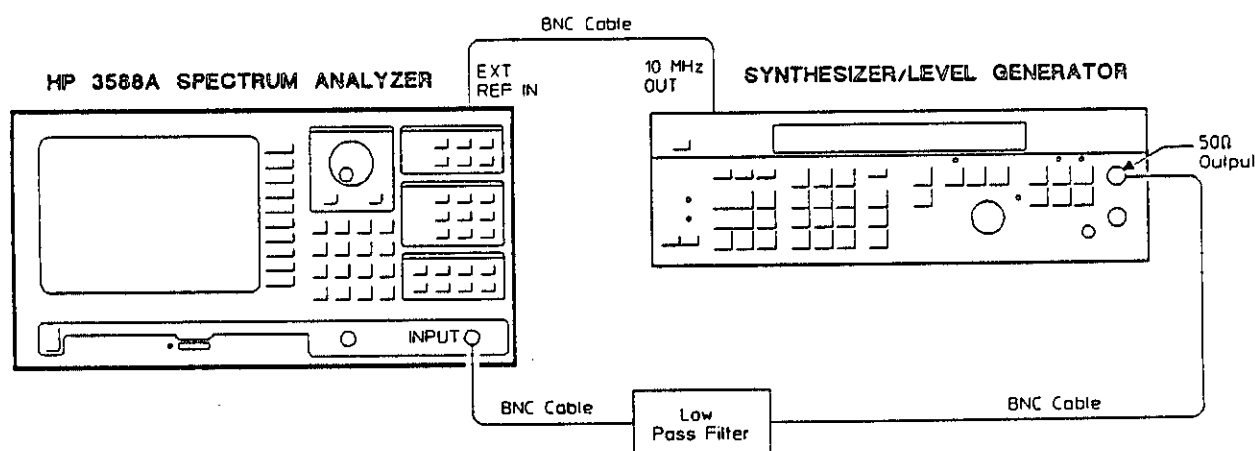

Figure 3-4. Input Harmonic Distortion Setup
1. Connect the test equipment as shown in figure 3-4.